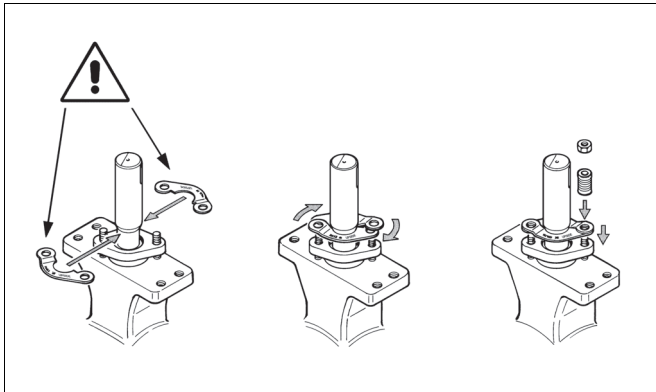

Fig. 10 Mounting the retaining plate
- Unfasten the nuts (25) and remove the TA-Luft kits (44), the retaining plates (42) and the gland (9).
- Remove old packing rings (20). Do not damage the surfaces of the packing ring counterbore and shaft. It is not necessary to change anti-extrusion ring (22) and sheet ring (21).
- Mount the retaining plates with the text UPSIDE on top (see Fig. 10).